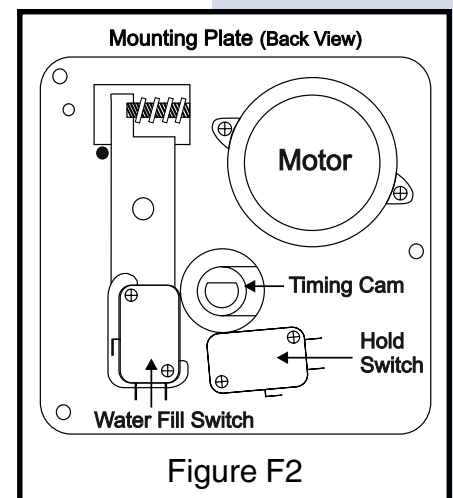

Figure F2
## Timing Switches (See Figure F2)
3. **Shut-Off Switch** - Stops Ice Maker operation when the Storage Container is full of Ice. The switch is opened after the Sensing Arm is raised to its most upright position. The switch is mounted to the top right wall of the Ice Maker Support. (Not shown in Figure F2)